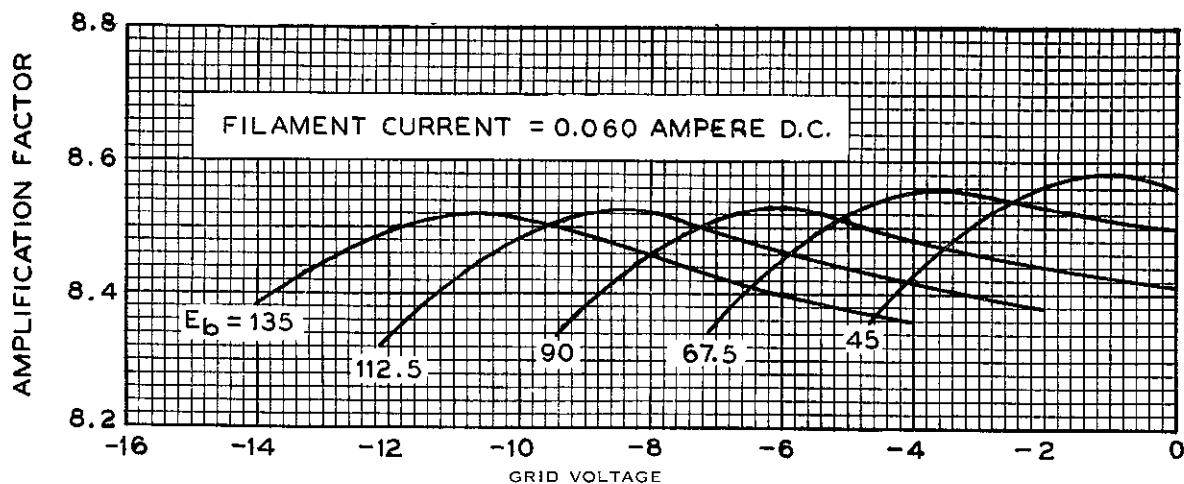
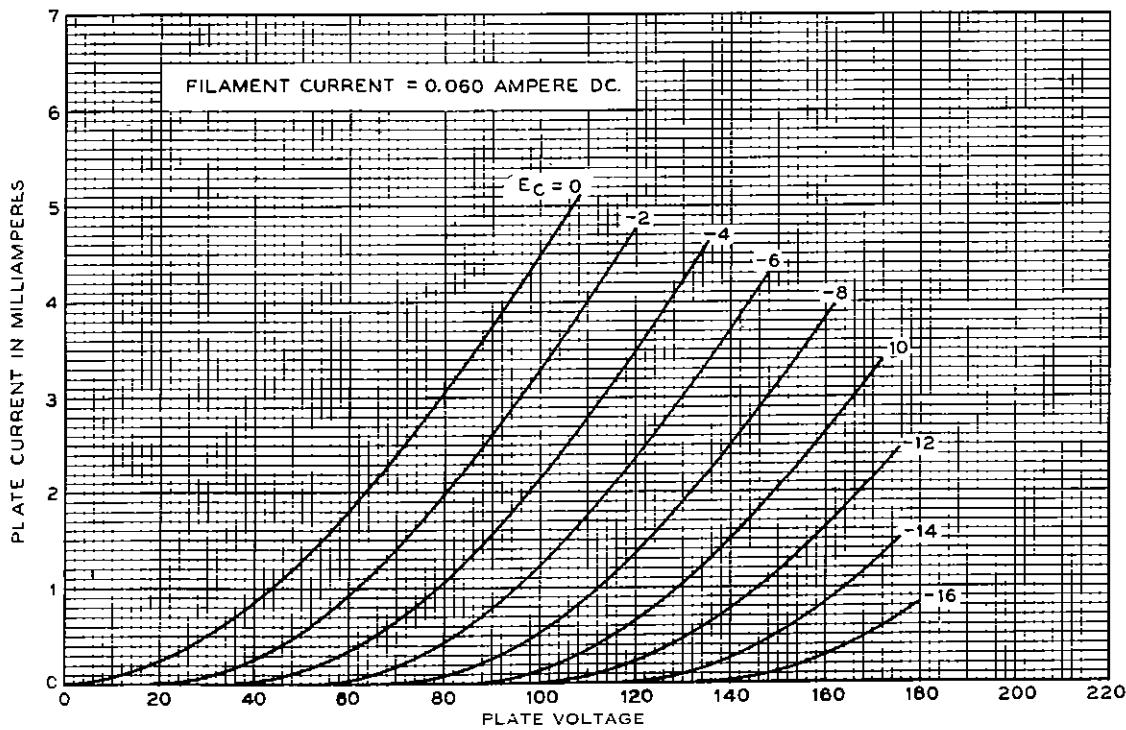

FIG. 4
FIG. 7
**Characteristics**—Plate current characteristics of a typical 257A tube are shown in Figure 3 as functions of grid voltage for several values of plate voltage. The grid and plate voltages are measured from the negative end of the filament. Corresponding amplification factor, plate resistance, and transconductance characteristics are given in Figures 4, 5 and 6, respectively. Plate current characteristics as functions of plate voltage are shown in Figure 7 for several values of grid voltage.